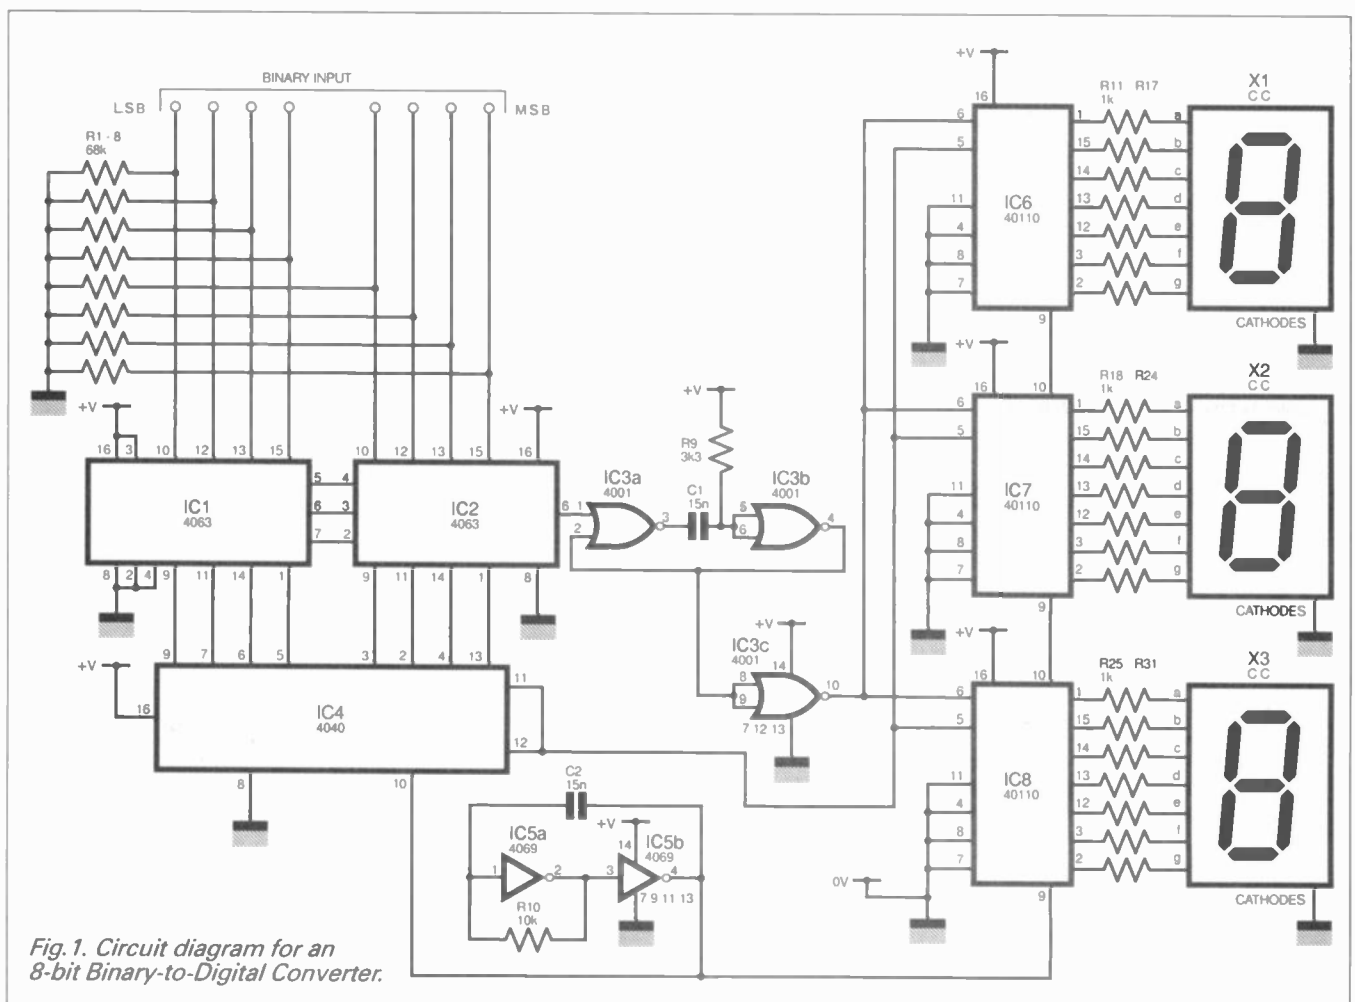

Fig. 1. Circuit diagram for an 8-bit Binary-to-Digital Converter.
**T**HE design illustrated in Fig. 1 is one which I created to help me when testing a number of digital projects using 8-bit data buses. The decimal value of the eight input lines is displayed on three 7-segment displays. Whilst chips exist to perform this function for single displays, none include the possibility of displaying numbers greater than nine.